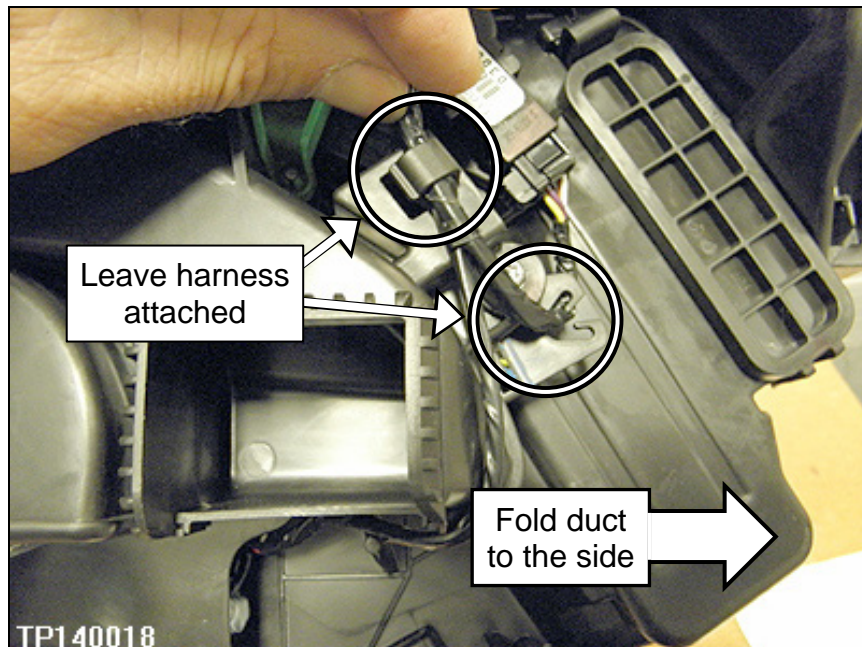

Figure 25
3. Leave the harness, shown in Figure 25, attached to the duct and gently fold the duct away from the PTC heater.